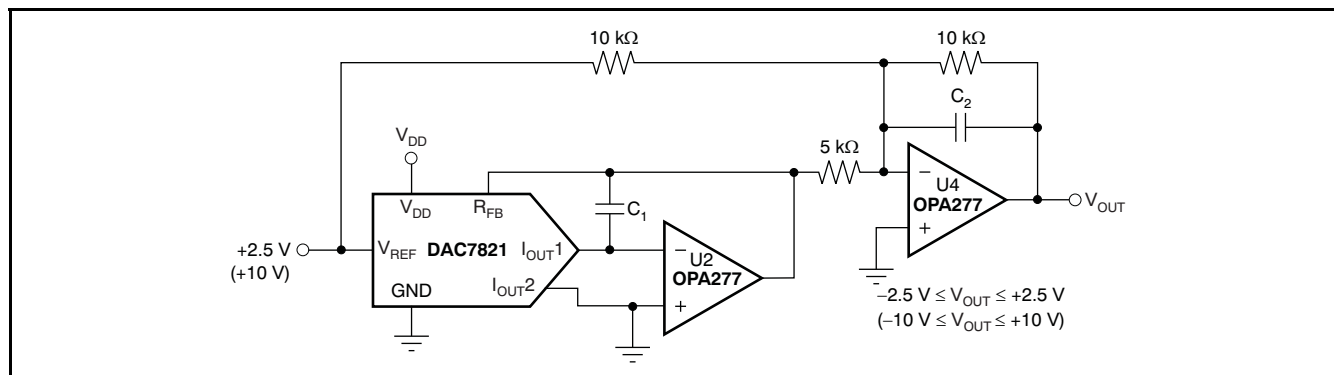

Figure 29. Bipolar Output Circuit
Some applications require full 4-quadrant multiplying capabilities or bipolar output swing. As shown in Figure 29, external op amp U4 is added as a summing amp and has a gain of 2X that widens the output span to 5V. A 4-quadrant multiplying circuit is implemented by using a 2.5V offset of the reference voltage to bias U4. According to the circuit transfer equation given in Equation 2, input data (D) from code 0 to full-scale produces output voltages of  $V_{OUT} = -2.5\text{V}$  to  $V_{OUT} = +2.5\text{V}$ .
External resistance mismatching is the significant error in Figure 29.